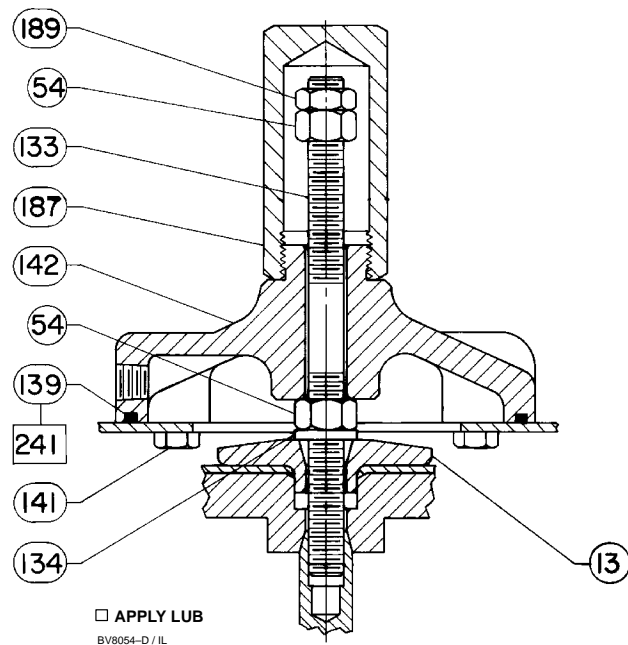

Figure 16. Casing-Mounted Adjustable Down Travel Stop for Size 30 and 40 Actuators (Style 2)
**Casing-Mounted Adjustable Down Travel Stop (figure 16)**